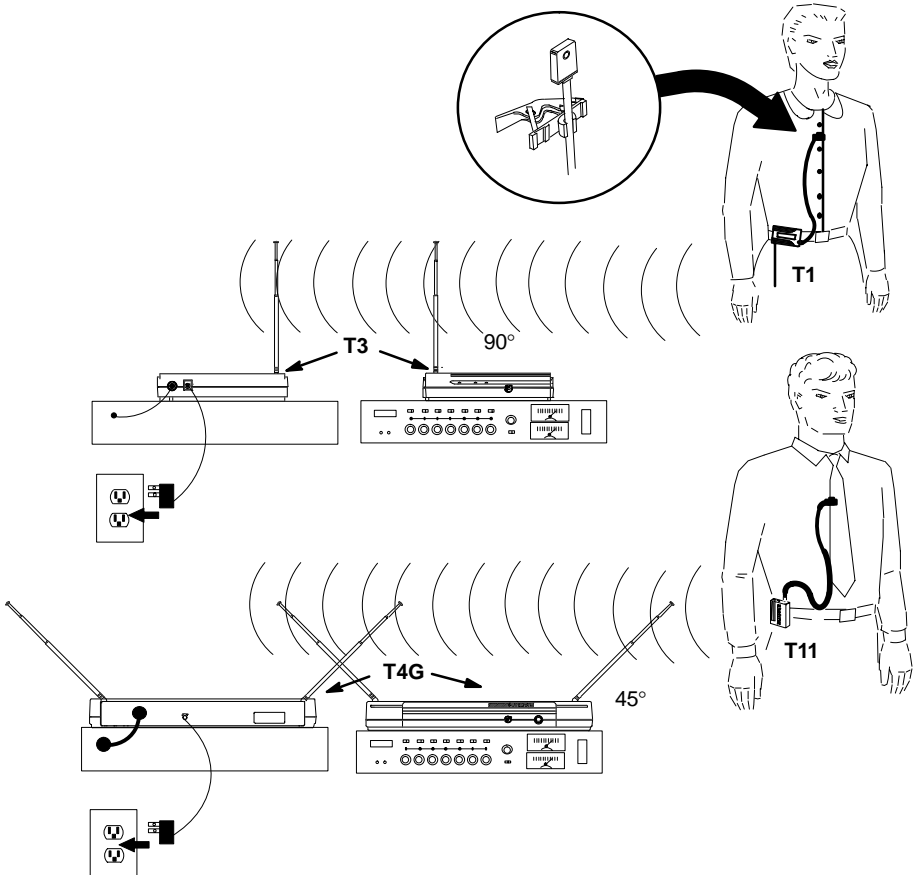

FIGURE 11
2. Refer to Figure 11. Plug one end of the ac power adapter into the DC INPUT connector on the receiver, and plug the other end into an ac power source (use PS20 for 105–125 Vac, 60 Hz power; use PS20E for 230 Vac, 50 Hz power). The green POWER light on the receiver will glow.